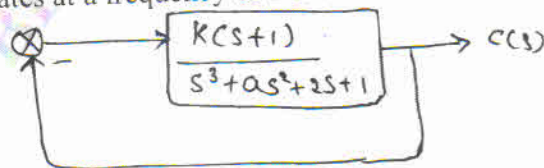

Fig. Q7 (a)
- 7 a. A system oscillates with a frequency 'w' if it has poles at $s = \pm j\omega$ and no poles in the right half of the s-plane. Determine the values of 'K' and 'a' so that the system shown in Fig. Q7 (a) below, oscillates at a frequency of 2 rad/sec.